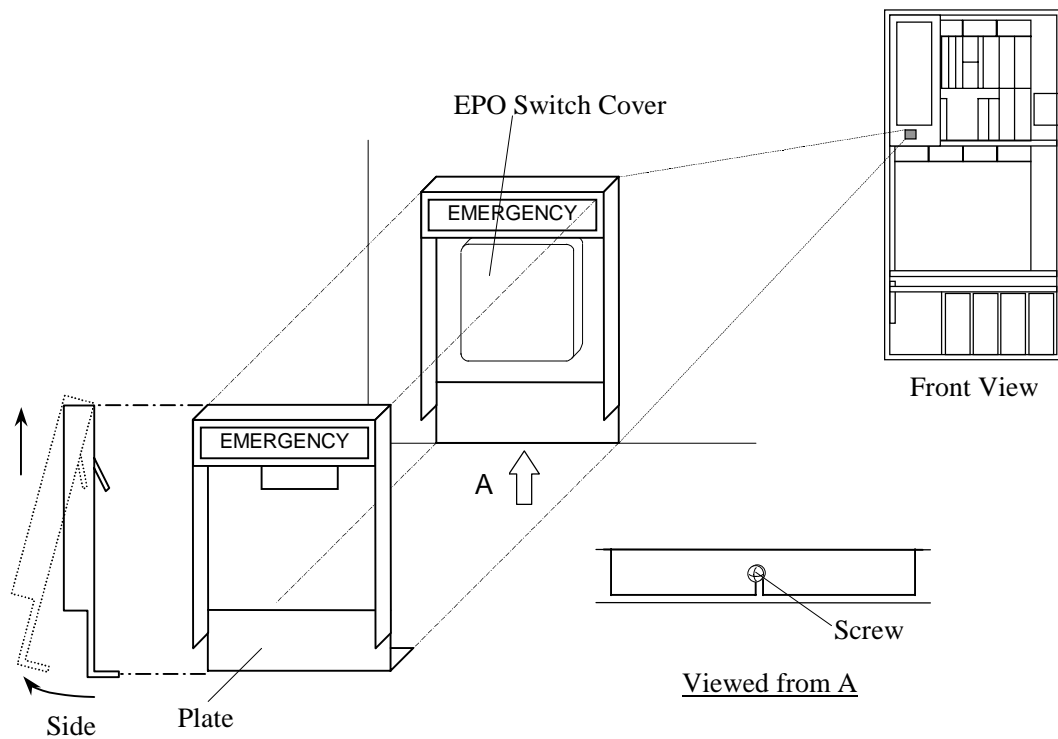

Fig. 3.11-1 Removal of Plate
- j. Attach the plate and fasten the screw. Refer to Fig. 3.11-1.